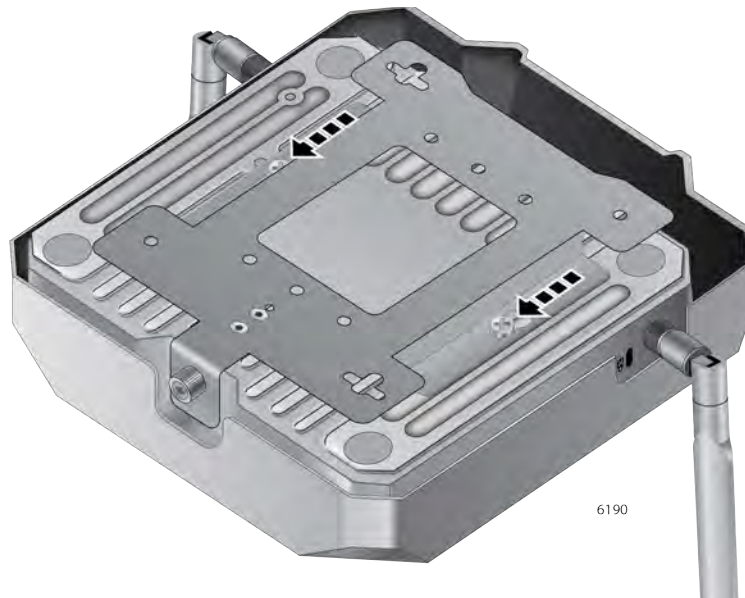

Figure 16. Attaching the Mounting Bracket on the Access Point
4. Make sure that the mounting bracket fits to the access point by sliding the bracket beneath the screws as shown in Figure 16.